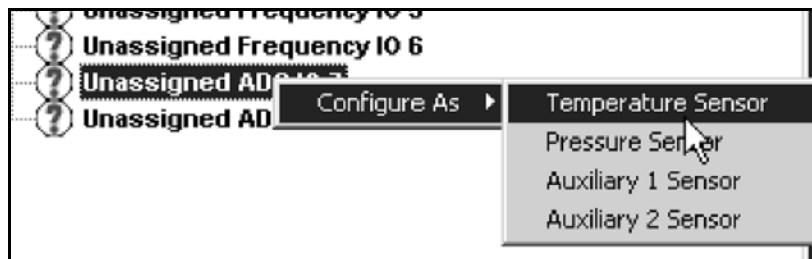

Figure 57: Accessing the Sensor Configuration
4. Under Unassigned I/O, right click on Unassigned ADC IO 7 and select the desired configuration option (see *Figure 57* below).